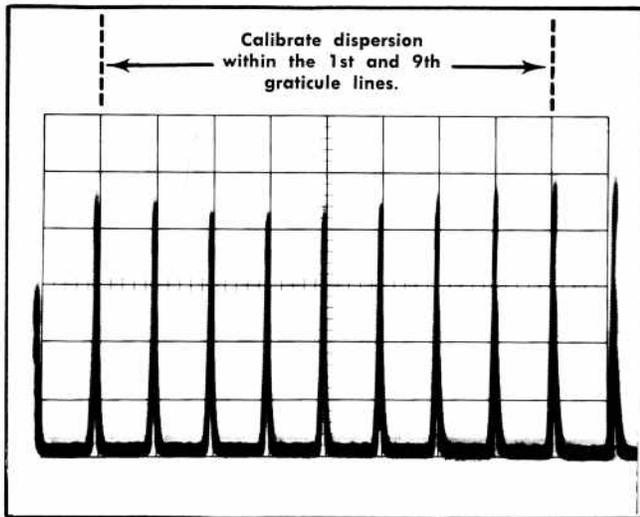

Fig. 2-7. 1 MHz Markers Output signal (phase lock reference) applied to the RF INPUT connector to check dispersion calibration.
- Adjust the DISP-CAL for 1 marker/centimeter. See Fig. 2-7. Use the Horizontal Position control or the IF CENTER FREQ control to align the markers to the graticule lines. Dispersion is calibrated over the center 8 centimeters of the display.
2. Turn the INT REF FREQ control ccw but not OFF. Apply the 1 MHz CAL MARKERS OUT signal to the RF INPUT connector. This should provide a picket fence display. See Fig. 2-7.